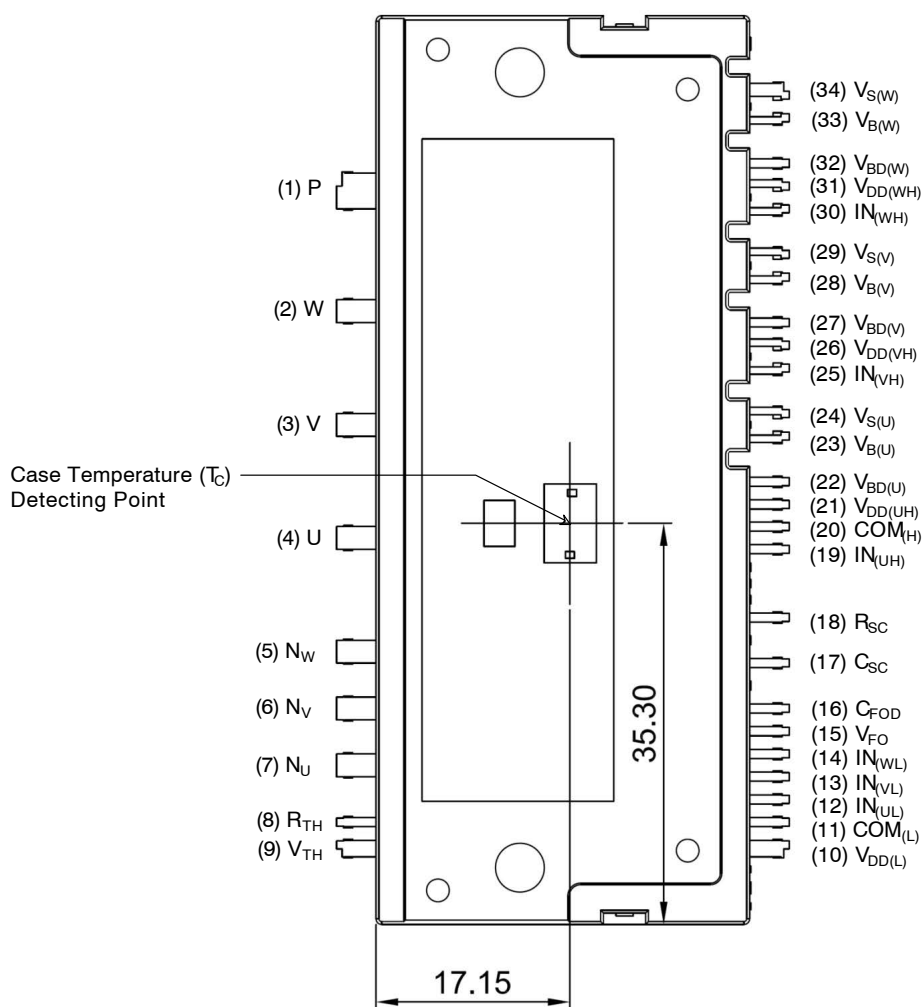

Figure 1. Top View
- 1200 V–35 A IGBT inverter for three-phase DC/AC power conversion (Refer to Figure 1)
5. For the measurement point of case temperature (T_C), please refer to Figure 1. DBC discoloration and Picker Circle Printing allowed, please refer to application note AN-9190 (Impact of DBC Oxidation on SPM[®] Module Performance).